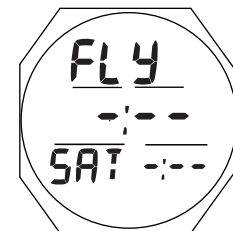

Fig. 28A - FLY/SAT (no dive yet)
**FLY/SAT**, information includes (Fig. 28A, B):